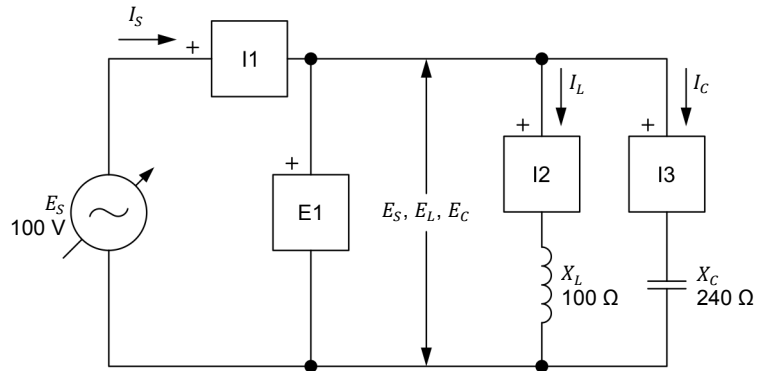

Figure 3-14. Parallel ac circuit containing an inductor and a capacitor, and set up for measuring the reactive power in each component.
7. Set up the circuit shown in Figure 3-14.